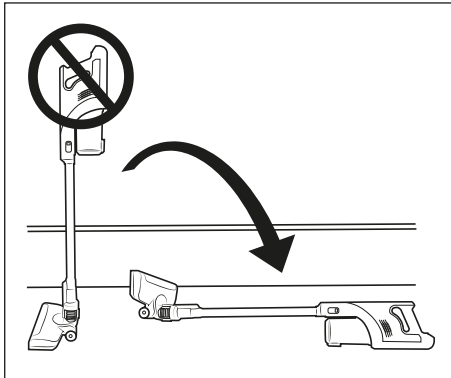

Fig. 9
- ▶ Do not place the vacuum cleaner upright when you want to put it down or take it out of your hand in the meantime. To do this, place the vacuum cleaner in the wall bracket **18** or lay it on the floor (see Fig. 9 and 10). The vacuum cleaner may otherwise tip over and be damaged and possibly damage other objects when tipping over.